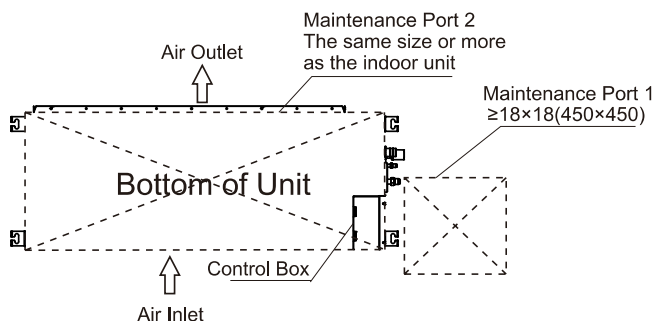
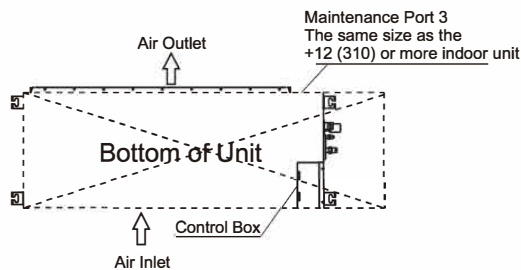

Fig. 3.1.3
Fig. 3.1.4
When the height (H) from the ceiling to the bottom plate of the unit is < 12 in.(300 mm), access holes are required, as shown in Fig. 3.1.3, Fig. 3.1.4.